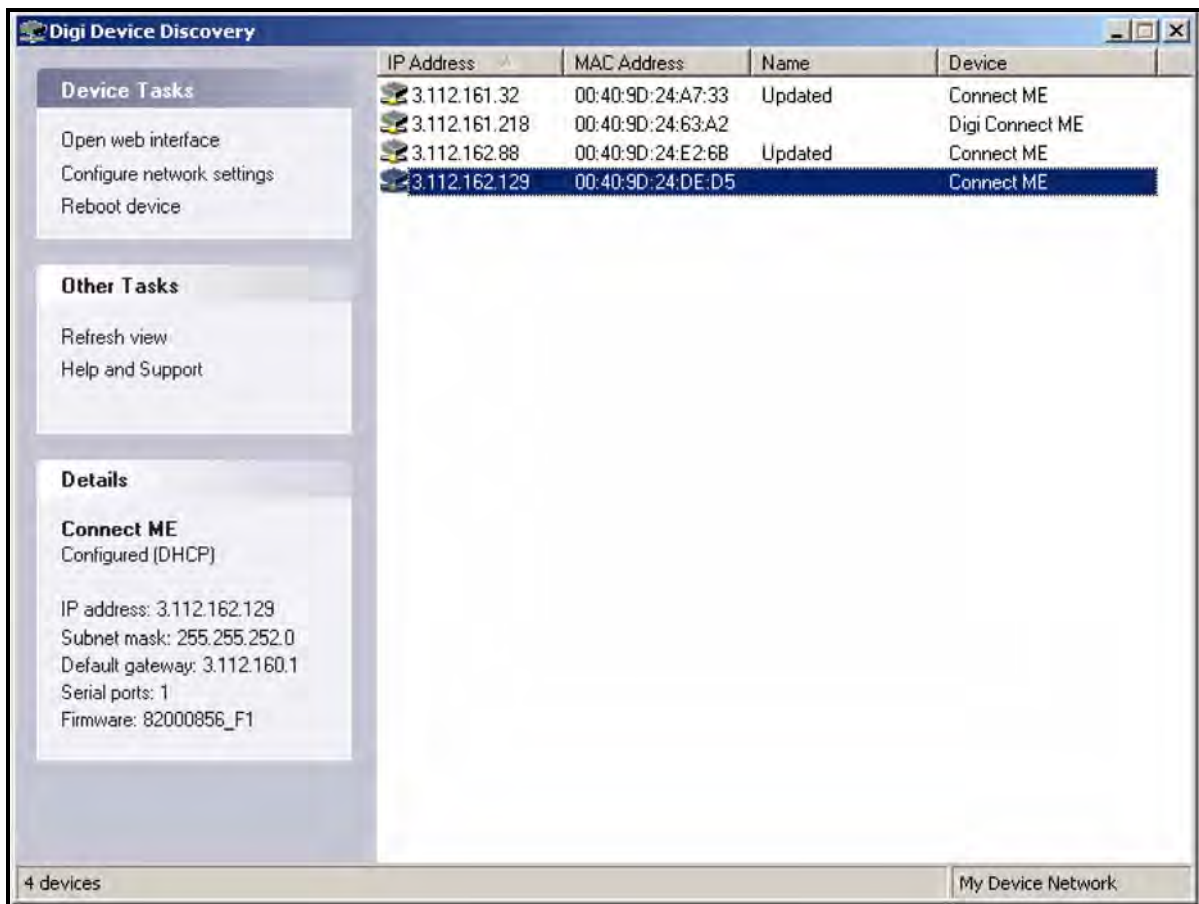

Figure 16: Finding the Assigned IP Address
1. Run the *Digi Device Discovery Program* (see Figure 16).